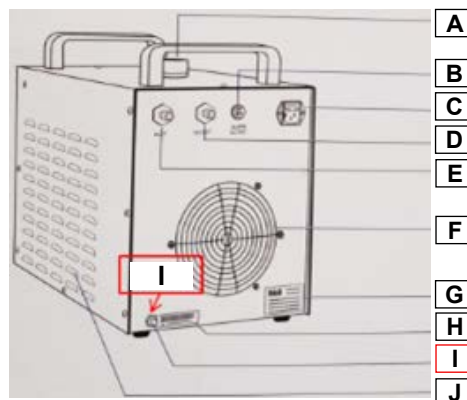

Fig. 2
- 2) Water changing cycle : It is recommended to change the water once every three months. When you want to change the water in the cooling system, turn the power OFF, turn the drain outlet (Fig. 2) to open it to allow the water to be discharged from inside of the system for cleaning. Then, tighten the drain output and put new water according to the instructions.